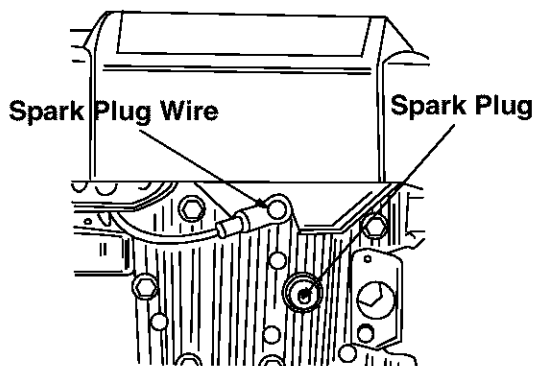

Figure 2
- Disconnect the spark plug wire from the spark plug, and ground it against the engine by attaching rubber boot to a bolt. See Figure 2.